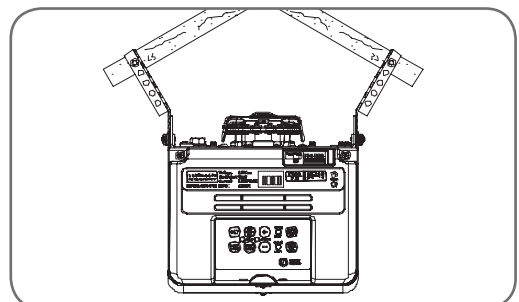

fig 17
- Secure the perforated angle (not supplied) to the ceiling above where powerhead's mounting holes will be once fully installed. A representative mounting is shown (**Fig. 17**)
- Secure the perforated angle (not supplied) to the ceiling above where powerhead's mounting holes will be. See (Fig.17) for a representative mounting.
- Connect the powerhead to the ceiling mounted perforated angle with M8x20mm screws and nuts. Strips should not extend more than 18mm below centre of powerhead mounting holes (Fig. 17).